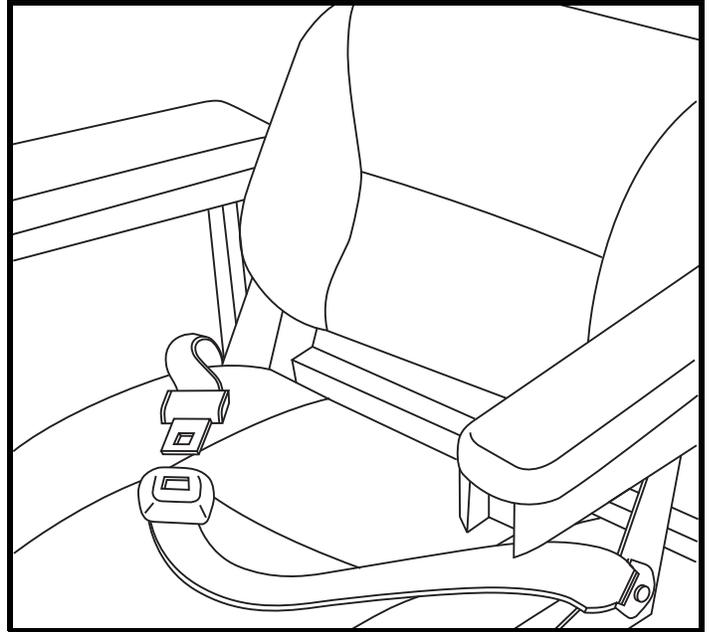

Figure 22. Positioning Belt Adjustment
Your power chair may be equipped with a positioning belt that can be adjusted for operator comfort. See **figure 22**. The positioning belt is designed to support the operator so that he/she does not slide down or forward in the seat. The positioning belt is not designed for use as a restraining device.
1. Once seated, insert the metal tab on one side of the belt into the plastic housing on the opposite side until you hear a click. See **figure 22**.